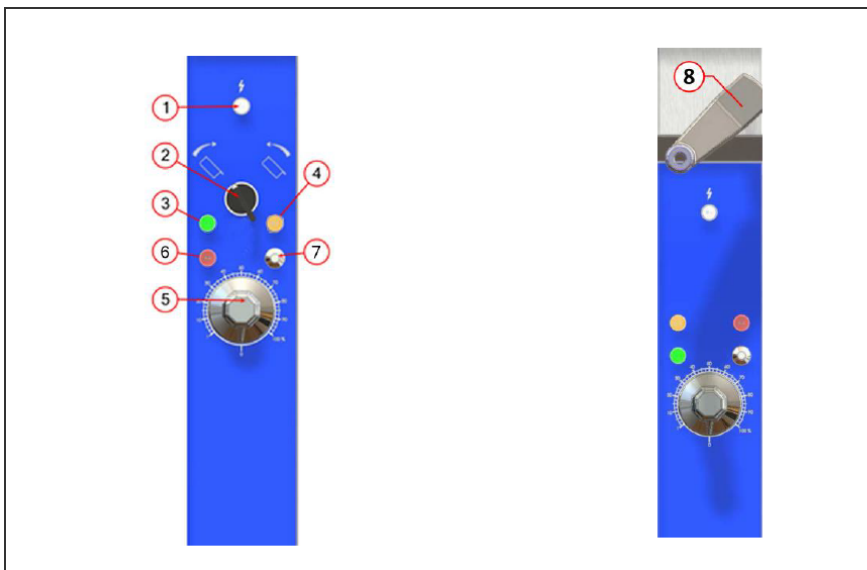

Fig. 6
- With the appliance switched on, the white light is on (Fig. 6 Item 1).
- Turn the power meter control knob (Fig. 6 Item 5) to the desired power.
- The green indicator light (Fig. 6 Item 3) comes on.
- The amber indicator light (Fig. 6 Item 4) also comes on, indicating that the tank is heating up.
- Depending on the model (tilting by lever or by jack), turn the lever (Fig. 6 Item 8) or the switch (Fig. 6 Item 2) to the left to tilt the tank.
- When the tank reaches the limit switch threshold, the red error indicator light (Fig. 6 Item 6) comes on to indicate the error and heating is stopped.
- To reset the heating assembly, first lower the tank (turn the lever or the switch to the right) and then press the reset push button (Fig. 6 Item 7).